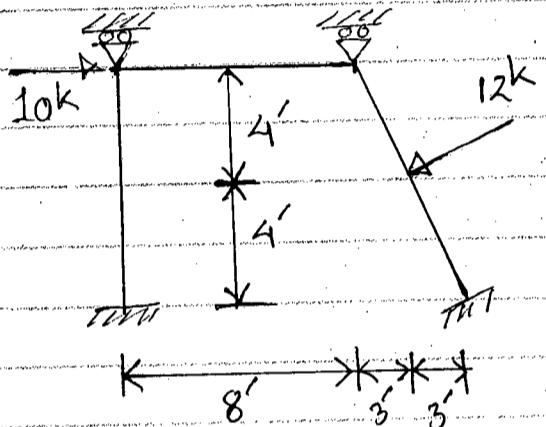

Fig. 9
(b) Calculate deformations of the free degrees of freedom of the frame shown in Fig. 9. Use the Stiffness Method. Ignore axial deformation of the beam only. Given: $A = 10 \text{ in}^2$, $I = 1000 \text{ in}^4$, $E = 3000 \text{ ksi}$ for all the members. (25)